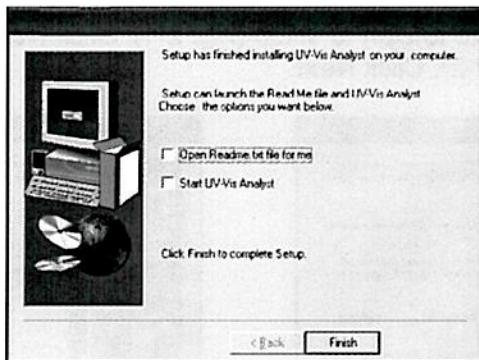

Fig. 2-7
8. Click **Finish** to complete and exit setup (Fig. 2-7).